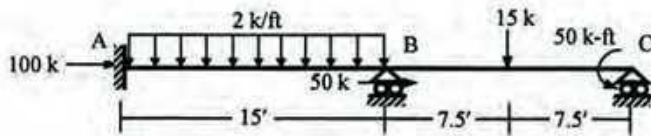

Fig. 6
6. Use Stiffness Method to calculate the unknown joint rotations and displacement for the beam ABC loaded as shown in *Fig. 6*, considering flexural deformations only with geometric nonlinearity [Given: $EI = 50 \times 10^3$ k-ft²].